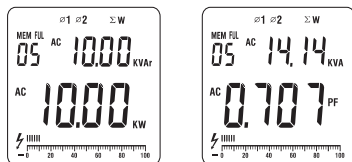

Figure 16
- Press **MAX/▲** or **MIN/▼** as figure 16 to step through in sequence three phase sum of active power+three phase sum of reactive power, and three phase sum of power factor + 3 phase sum of apparent power.